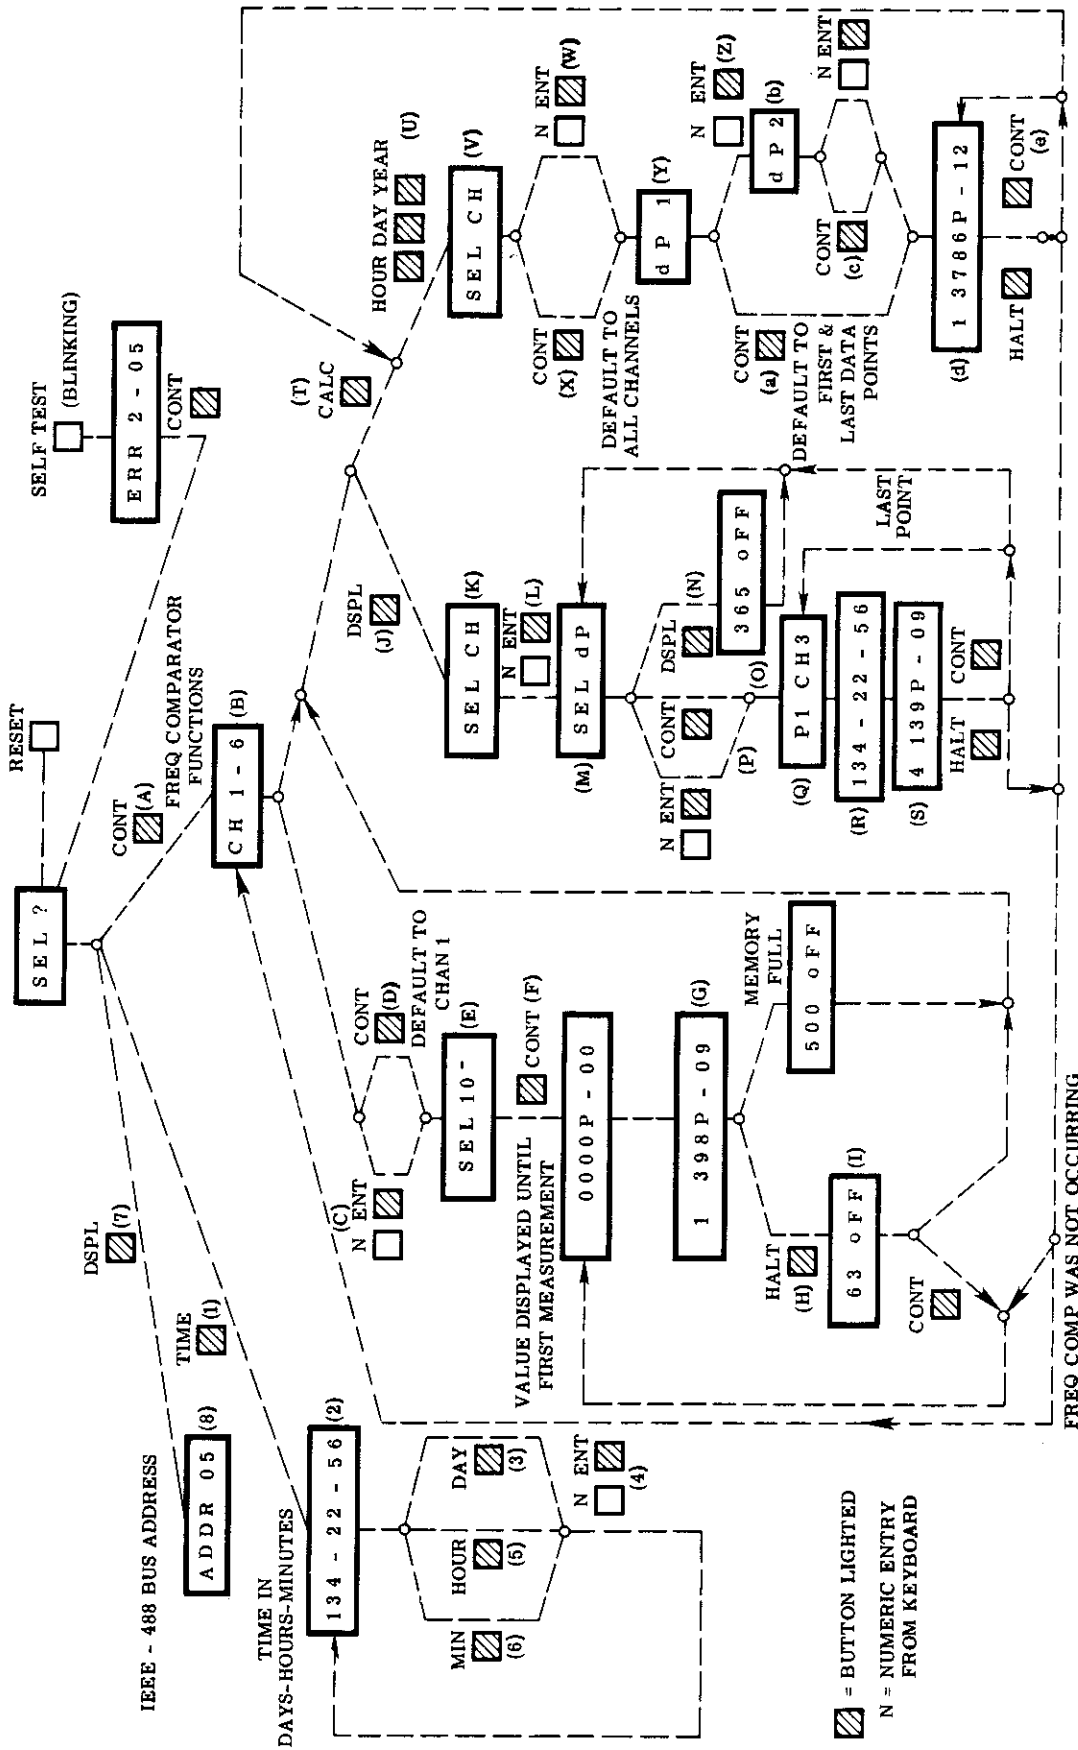

Figure 3.2 Operational Flow Diagram
The following paragraphs and Figure 3.2 are the operating instructions for the Frequency Comparator. Figures in ( ) refer to Figure 3.2 Operational Flow Diagram. Specifically, these instructions tell the operator how to perform frequency error measurements, display measurements from memory, and perform drift calculations. Only the lighted pushbuttons can be used during a routine. CLR is for display clearing only.
- E. Press CONT (D) and SEL 10-7 should be displayed (E). Select the desired frequency resolution with the RANGE switch on the AS210-02 Frequency Comparator module.
- F. Press CONT (F). The frequency offset measurement routine now proceeds. 0000P-00 will be displayed until the first measurement is made. Thereafter, the channel number and frequency offset (error) will be displayed for each measurement as it is made until 500 measurements have been taken. A display of 1 398P-09 as shown in Figure 3.2 (G) indicates a frequency offset of  $398 \times 10^{-9}$  on channel 1. When 500 measurements have been completed without interruption, the program will halt automatically and 500 OFF will be displayed, indicating that 500 data points have been taken and the program is in an OFF condition. The measurement cycle can also be stopped at any time with the HALT (H) function button. The data point number and OFF will be displayed (I). Measurement can be resumed by pressing CONT.